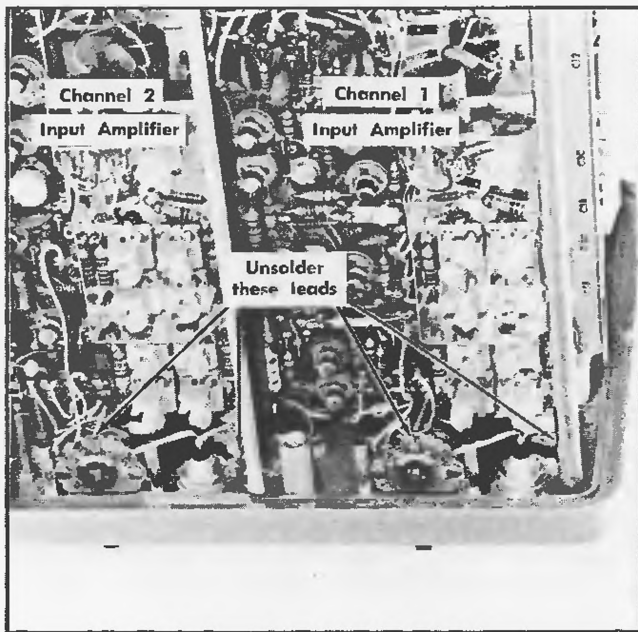

Fig. 4-4. Leads to unsolder to remove attenuator unit.
1. Unsolder the wire from the AC GND DC switch and the ground lead from the BNC connector (see Fig. 4-4).